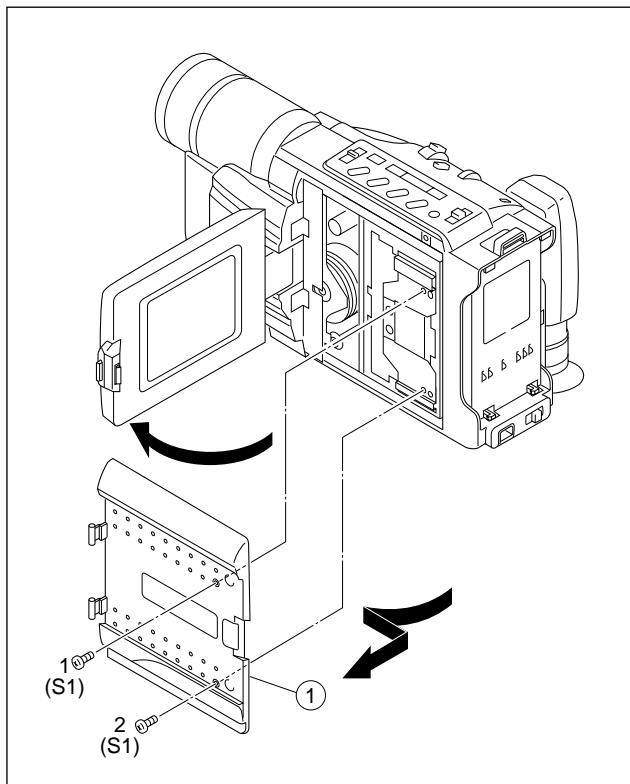

Fig. C1
2. Remove the cassette cover assembly, Cover (VF), top cover, (See Fig. C1, C2 and C3, Page 1-1, 2, 3 and 4)